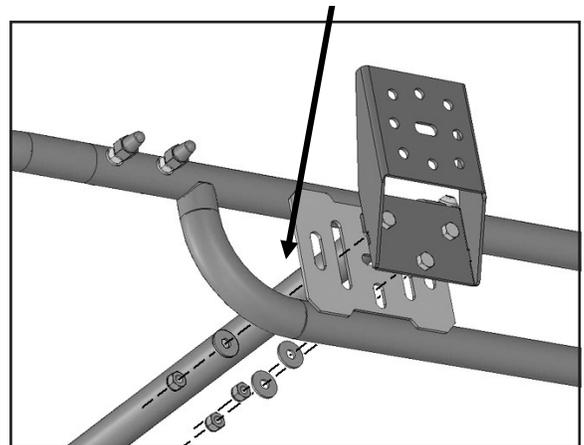

FIGURE 20
19. Attach each Offset Accessory Mount to the Top Rail as desired with the included (3) 8mm Nylon Lock Nuts and (3) 8mm x 24mm Flat Washers. (**FIGURE 20**).